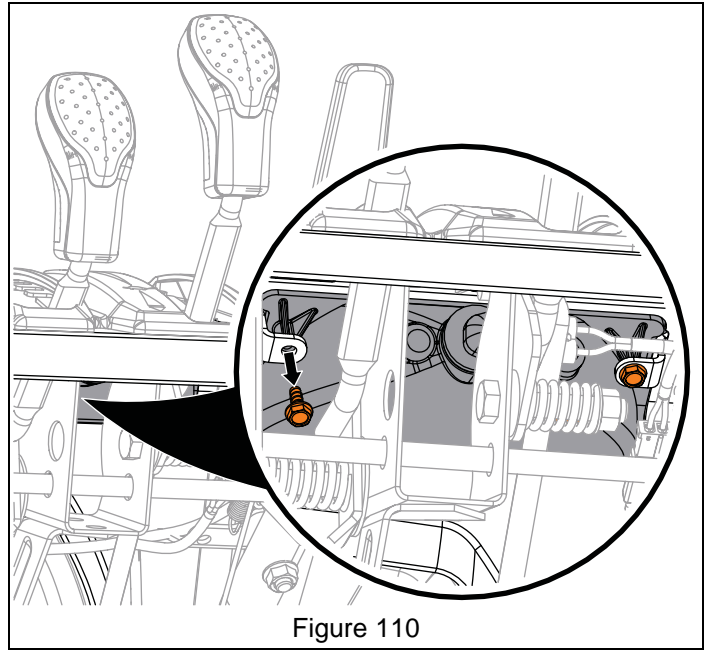

Figure 110
3. Remove hardware securing headlight to dash panel. See Figure 110.